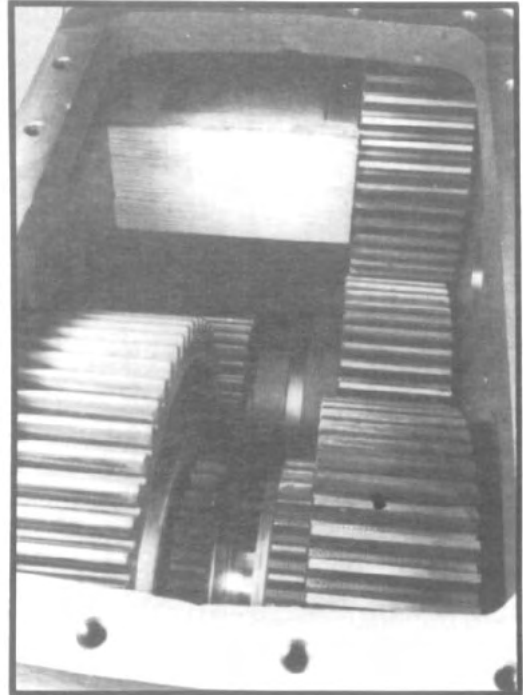
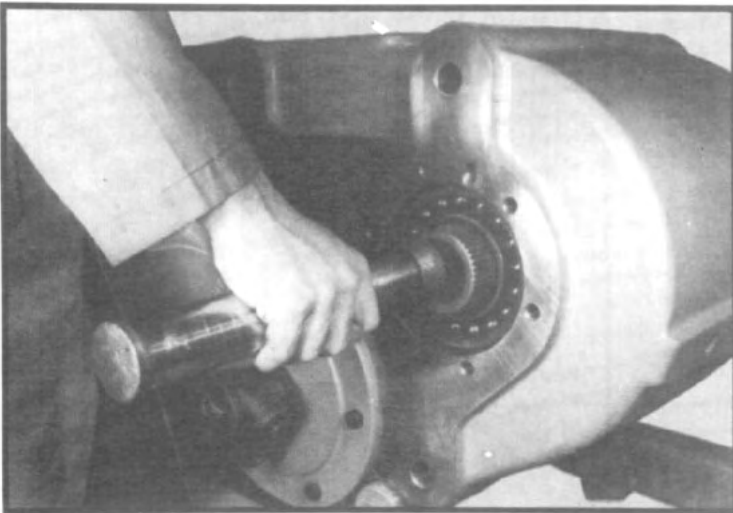

Fig. 27
Fig. 28
8. Place a block of wood between input gear and inside of housing (See fig. 27) and drive input bearing outwards by tapping with a soft hammer on the rear of the input shaft until bearing is out of housing. (See fig. 28.)